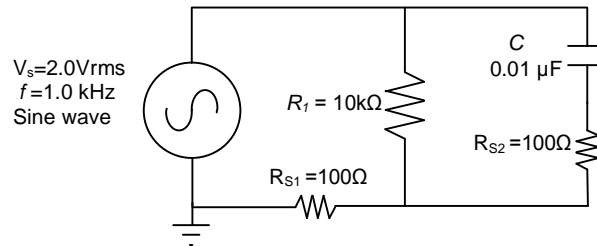

Figure 5.3
- Construct the circuit shown in Figure 5.3. Set the function generator to provide a sine wave with a voltage of 2.0 V_{rms} at 1.0 kHz. Verify the voltage and frequency with your oscilloscope while the circuit is connected and operating; adjust if necessary.
- Ignoring the effect of the sense resistors, compute the real, reactive, and apparent power of the circuit in Figure 5.3 at 1.0 kHz and at 2.0 kHz.